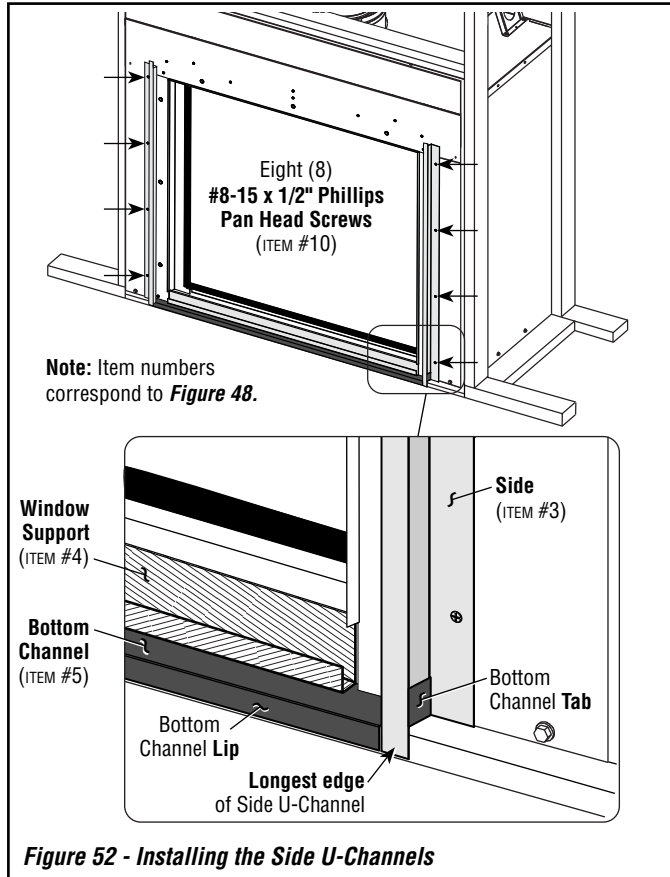

Figure 52 - Installing the Side U-Channels
- c) Install the three (3) provided **#10-16 x 3/8" Screws** (ITEM #8) through all three layers.
4. See **Figure 52**. Hold one of the **Side U-Channels** (ITEM #3) with the **longest edge** facing OUT and the channel turned away from the window. Hook the end of the Side U-Channel over the **Tab** on the Bottom Channel. The **longest edge** of the Side U-Channel should hang down flush with the **Lip** on the Bottom Channel.
Attach four (4) of the **#8-15 x 1/2" Phillips Pan Head Screws** (ITEM #10) (see arrows in **Figure 52**).